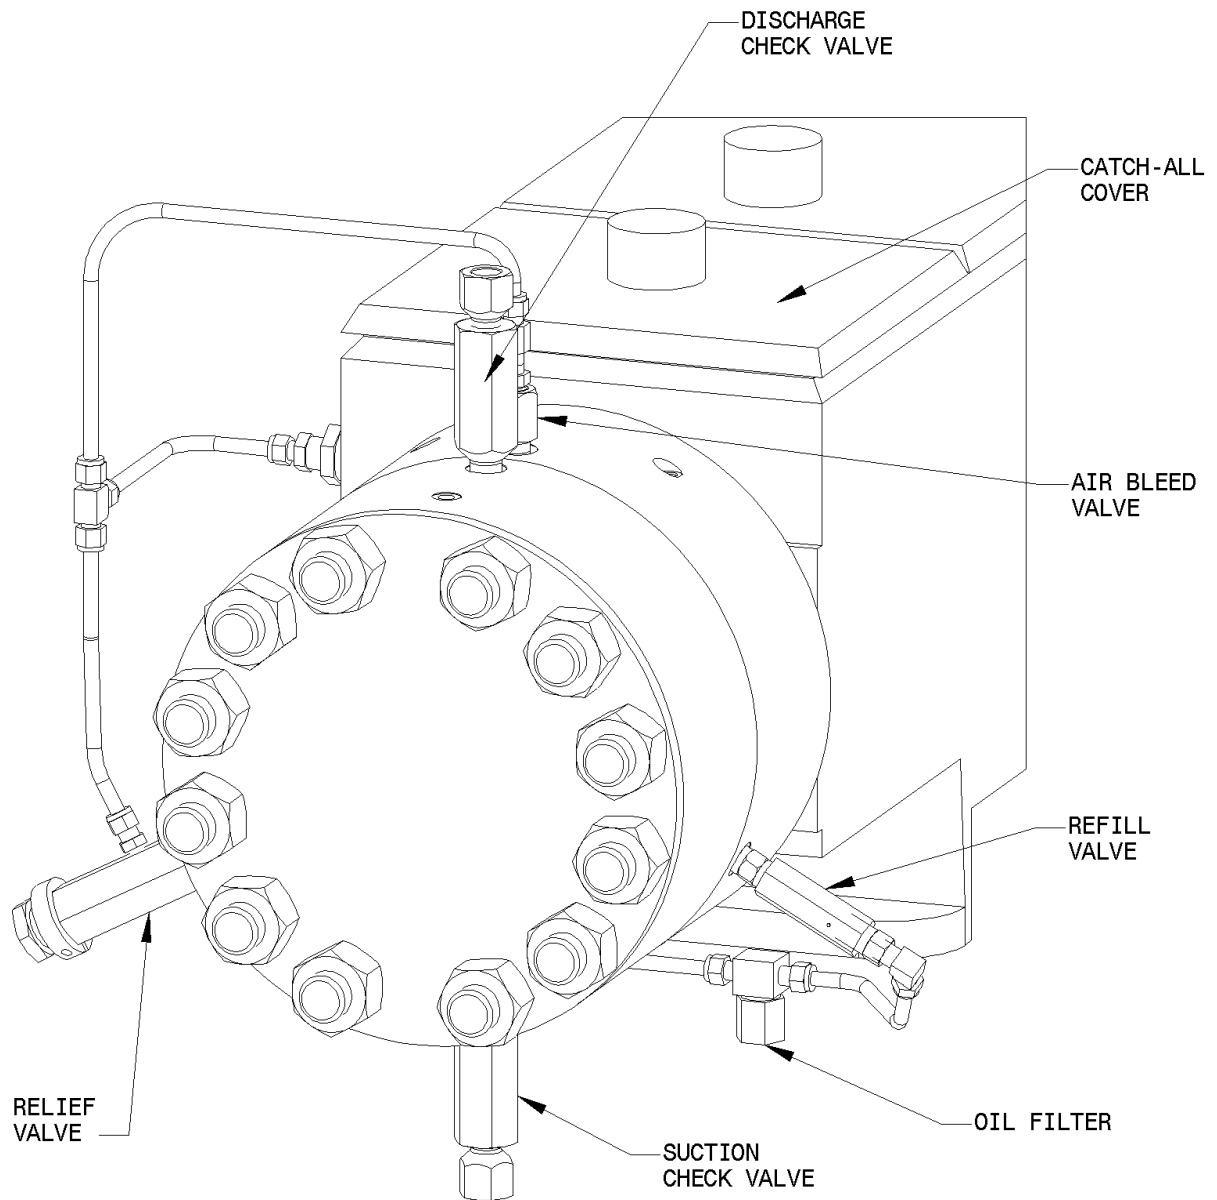

Figure 1: Metallic Diaphragm Liquid End
2. Disconnect the outlet tube from the air bleed valve (See Figure 1) and remove the air bleed valve from the liquid end. Make sure that the O-ring between the displacement chamber and the air bleed valve does not get lost or damaged, and that the opening in the displacement chamber remains clean.
7. Remove the catch-all cover (see Figure 1), which is a small square cover over the front chamber of the pump, and fill the chamber with hydraulic oil (same oil as used in step 4) to a level equal to the top of the oil seal which surrounds the crosshead.
The pressure relief valve (see Figures 1 and 9) is factory set to open at a pressure slightly above the pump maximum operating discharge pressure; never set the valve at any greater pressure.
Inspect and replace the hydraulic oil and oil filter (See Figure 1) on the same schedule as the pump's gear drive lubricant (see the appropriate pump drive instruction manual for this information). The oil filter strainer is included in the RPM Kit, but can be ordered separately, if required. Semiannual replacement is recommended, and can be scheduled to coincide with seasonal oil changes.
1. Remove the catchall cover by unscrewing the four screws which hold it on (see Figure 1).
2. The oil filter (See Figure 1) is piped in-line just before the refill valve. Support the oil filter and loosen the large union nut with an open-end wrench.
2. Remove the check valves from the pump liquid end (see Figure 1).
3. Clamp the check valve body (290) in a vice and remove the retaining nut (250).
4. Remove the check valve body (290) from the vice and using a narrow rod, tap out the ball seats (220), ball cages (270), balls (280) and washer (245). The washer is not used in all designs, so it may not be found in your check valve. With the check valve body standing vertically on a flat surface, it will be necessary to tap out some of the components, remove them, and then continue tapping out the rest.
5. Once disassembled, the O-rings (230) and back-up rings (240) on both of the seats (220) and the retaining nut (250) should be discarded.
6. Inspect the balls (280) carefully. If they are smooth, round and free of deposits or pits, then they are suitable for continued use. Examine the check valve seats (220). The area of the seat where it meets the ball (the un-chamfered side) must be in near perfect condition for continued use. Any imperfection visible on the seating surface (pits, erosion, cracks, or a ball shaped contour greater than 0.030 deep) makes